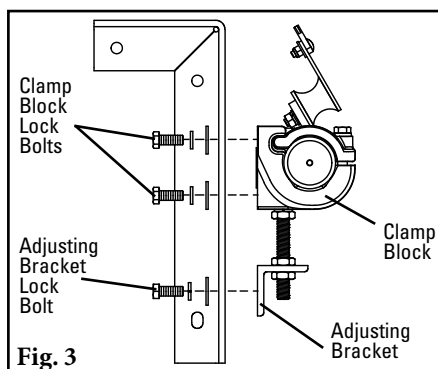

Fig. 3
- Install the pole.** Remove the clamp block top strap on the access side of the conveyor, and on the opposite side loosen the clamp block bolt. Slide the pole across and into the loosened clamp block, place near end of pole in bottom section of clamp block (Fig. 3). Replace the top strap on the clamp block, centre the blades on the belt and tighten both clamp block bolts finger tight.
- Set the tip angle.** With angle gauge provided, rotate the tips to the preset angle (Fig. 3) and lock the pole in place by tightening the clamp block bolts equally. **NOTE:** Make sure there is NO tip-to-belt contact while making this alignment. If contact occurs, lower the pole by loosening the clamp block lock bolts and raising the top adjusting bolt jam nut (Fig. 4). When the tips are not touching the belt, repeat this step.
3. **Reinstall the pole.** Slide the pole back into position on the mounting brackets, aligning marks made on the bracket and the clamp block. Install the two adjusting bracket lock bolts and tighten. Install the four clamp block lock bolts finger tight (Fig. 3).